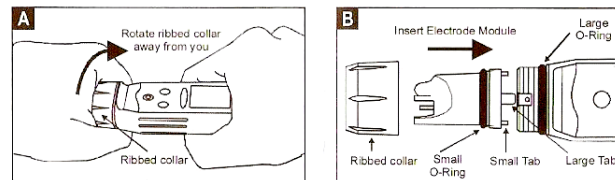

Figure 13: Removing collar & inserting electrode
1. With dry hands, grip the ribbed tester collar with electrode facing you. Twist the collar counter clockwise (see Figure 13-A). Save the ribbed tester collar and O-ring for later use.
3. Align the four tabs of the new electrode module so that they match the four slots on the tester (see Figure 13-B).